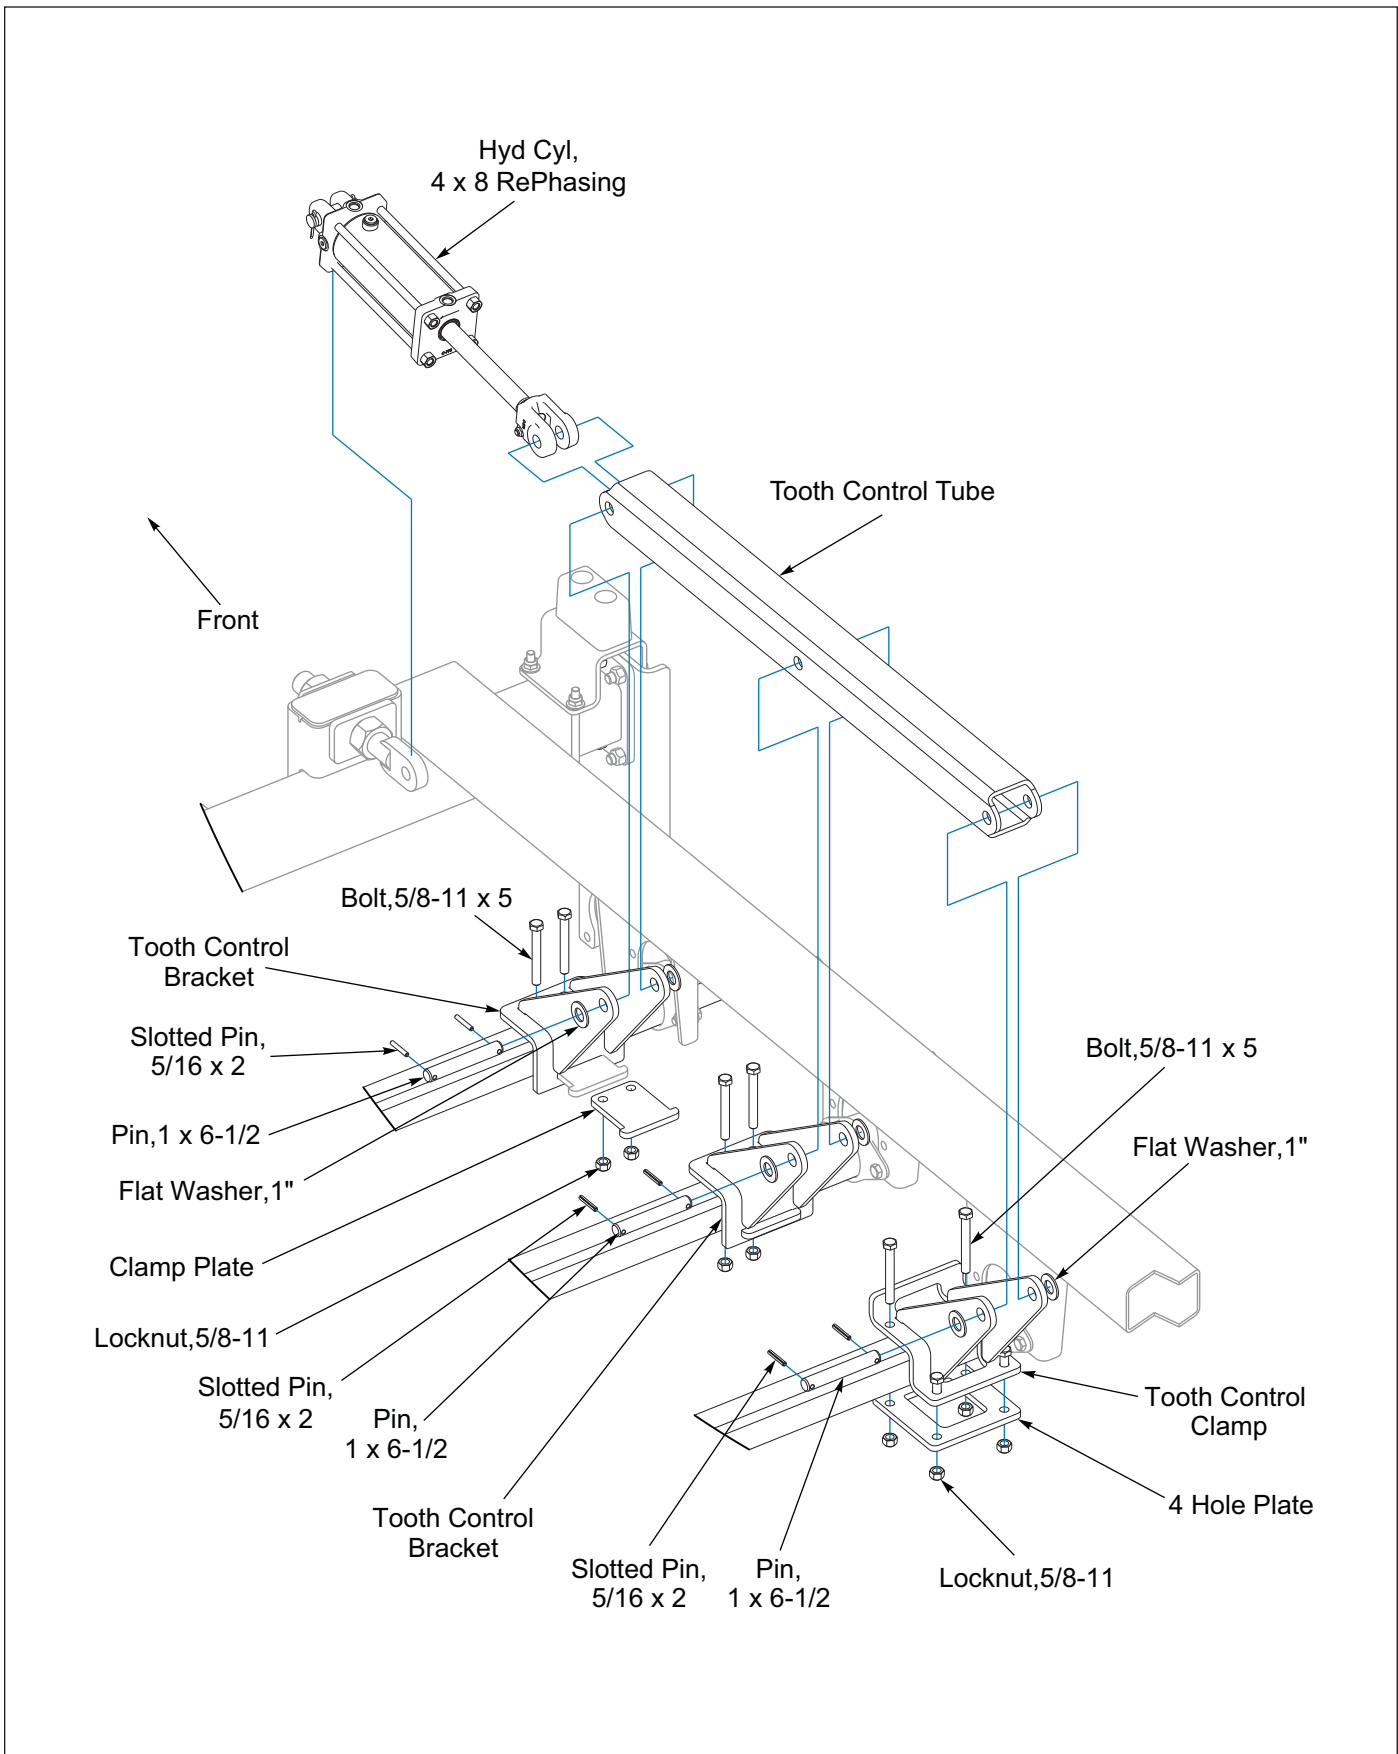

Figure 2-57: Right Hand Wing Tooth Control
1. Attach a Tooth Control Bracket on the top of the right Front Tooth Tube by sliding a Clamp Plate into the Tooth Control Bracket Slot and under the Tooth Tube. Fasten with 5/8-11 x 5 Bolts and Locknuts, **Do Not** tighten at this time. **See Figure 2-57.**